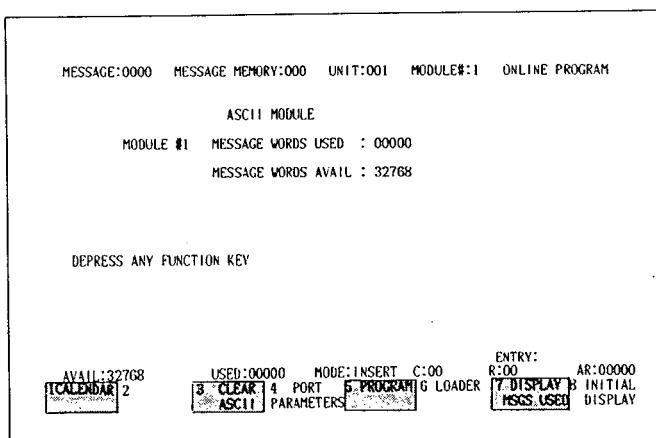

Fig. 7.18 Supervisory Display
Depressing **SUPER VISORY** key after ATTACH activation produces the display shown in Fig. 7.18, enabling the SUPERVISORY operations indicated in the label area.
5. When **CANCEL** is depressed instead of **CONFIRM**, nothing is executed, and the supervisory display (Fig. 7.18) is called up again.
- When **DISPLAY MSGS USED** is depressed in the supervisory display (Fig. 7.18), "READING USED MESSAGE NUMBERS" is displayed.
- Depressing **PREVIOUS MENU** calls up the supervisory display (Fig. 7.18) again.
- If CANCEL key is depressed instead of CONFIRM key, nothing is executed, and the supervisory display (Fig. 7.18) is called up again.
- Depressing PREVIOUS MENU key calls up the supervisory display (Fig. 7.18) again.